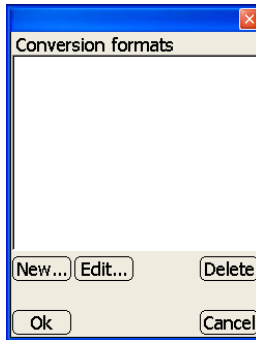

Figure 3-4. Conversion Formats Dialog Box
- On the **Conversion formats** dialog box, press **New** to create a new format (Figure 3-4).